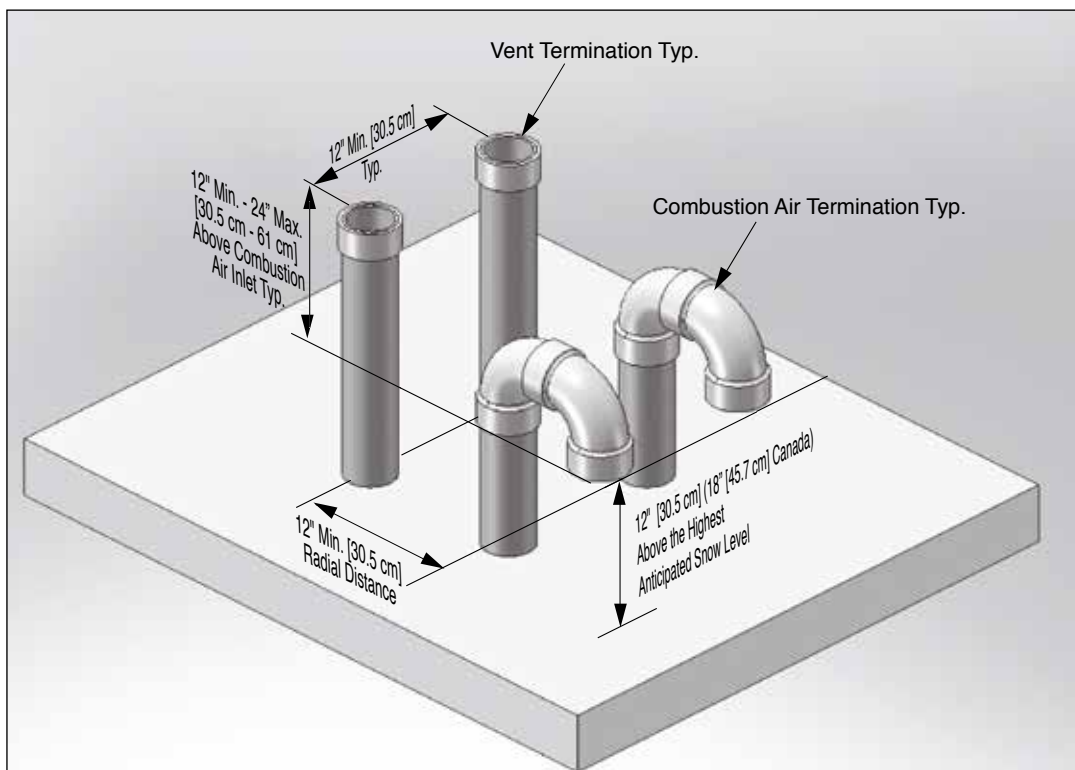

Fig. 5 - Direct Vent - Vertical Termination of Multiple EXALT Boilers
2. The roof penetration of the vent and combustion air piping must be such that the combustion air inlet is a minimum 12" [30.5 cm] from the adjacent vent pipe of the other boiler for installations in the U.S. as shown in *Fig. 5 on page 14*. For installations in Canada, provide clearances as required by CAN/CSA B149.1.